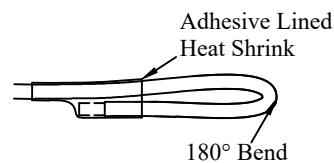

Figure 8: Sealed Wire End
6. **Seal** the remaining white and brown blunt-cut wires as shown (Figure 8).